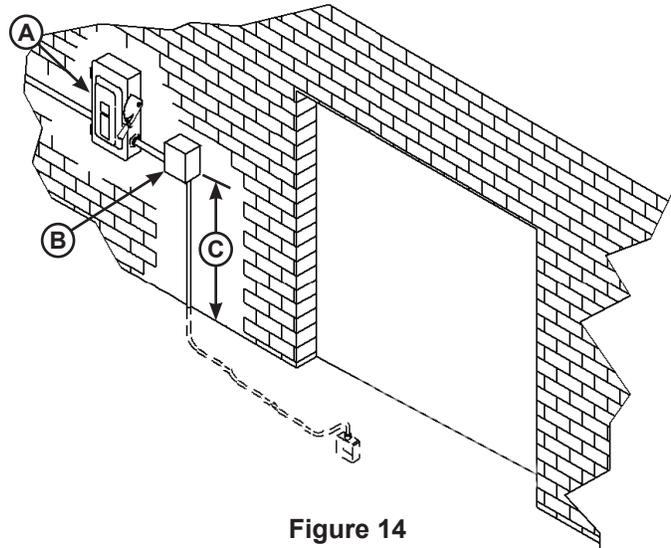

Figure 14
1. Mount the push-button control panel (B) so bottom of control panel-to-floor distance (C) is 48 in. (1219 mm). See Figure 14.
2. Install electrical disconnect panel (A) if not already installed. Disconnect panel supplied by others.